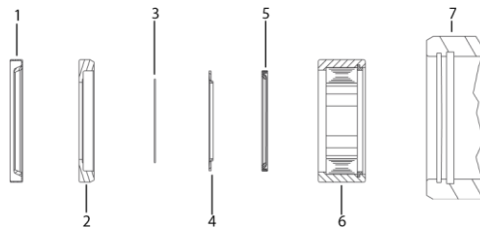

Figure 2: Correct seal orientation
- a. While maintaining grasp on shaft, use a rubber mallet to gently tap downwards on drive link (21) until shaft(31) comes free from housing (18).
- b. Remove drive link (21) from shaft (31) and lay aside.
- c. Without changing grip on shaft (31), set shaft onto a clean, flat surface with output end of shaft facing up.
- d. Remove thrust bearing (20) from rear of housing.
**Caution:** Although shaft bearing (14) can be removed from shaft for inspection, the rollers are not held in place by the bearing cage. If bearing is removed from the shaft, the rollers will come out of the race. If no bearing problems are suspected, it is recommended that shaft bearing and thrust bearing (17) and thrust washers (16) be left on shaft.
7. Remove seal carrier (13) from shaft (31).
- a. Using a thin, flat bladed screwdriver, carefully pry shaft seal (5), backup seal (4) and metal backup shim (3) from seal carrier (13) and discard.
- b. Remove high pressure seal (2) from housing (18) and discard.
8. Place housing (31) on a clean, flat surface with shaft end of housing facing up.
9. Being careful not to cut seal on keyway, place shaft seal (5) over shaft (31) making sure that lip on seal faces down (See *Figure 2*).
- a) Repeat process for backup seal (4) making sure that lip faces down.
- b) Place metal backup shim (3) over shaft (31).
- c) With flat side facing up, place seal carrier (13) down over shaft.
- d) Using an arbor press, carefully press down on seal carrier (13) to press seal assembly (3-5) into seal carrier (13).